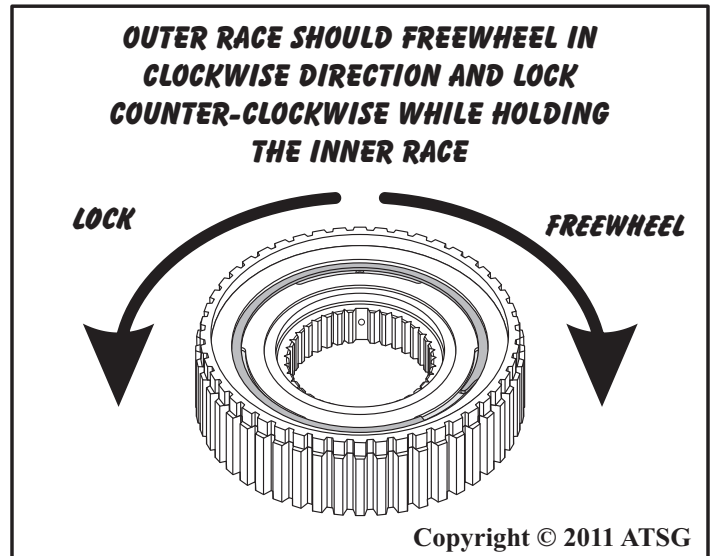

Figure 71
13. Check the low sprag for the proper freewheel direction, as shown in Figure 71.